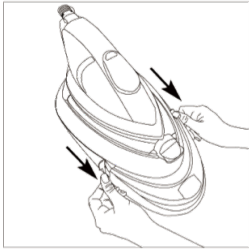

**Figure 1**
1. Immerse the new anti-scale cartridge into water for 5 minutes with one hole above the water and one hole submerged according to (Figure 1).